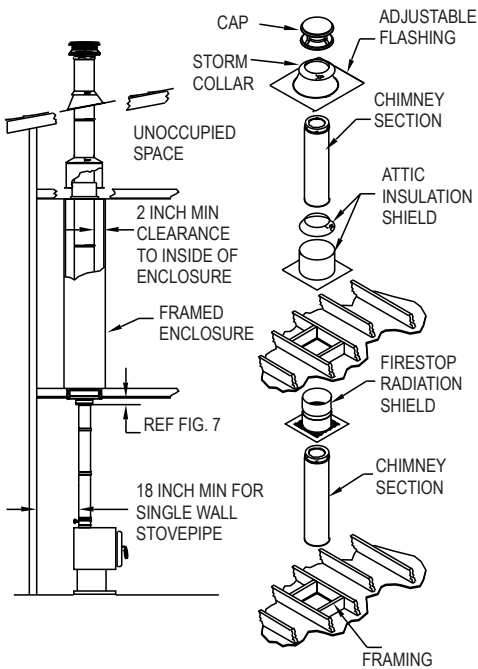
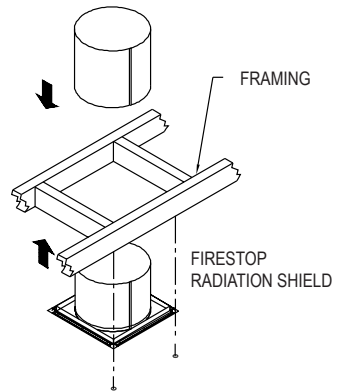

Figure 10
Figure 11
each ceiling or floor above the Support Box (**Fig.10**). These openings are to hold the Firestop Radiation Shield and Attic Insulation Shield. Locate each opening by dropping a plumb bob to the four corners of the opening below. Maintain the framing dimensions as specified in **Table 1**. **Warning: other than the framing for the Reduced Clearance Support Box, any combustible materials around the chimney must meet the minimum 2" clearance requirement.** If Elbows must be used to avoid an obstruction, refer to the Offset Elbow Installation section.
need a Firestop Radiation Shield at the 2nd floor ceiling, and at the 3rd floor ceiling, etc., including where the chimney penetrates into the attic. **Fig.10** shows a typical 2-story installation with an attic. Note: a Firestop Radiation Shield is not installed where the chimney penetrates through the roof. The Firestop Radiation Shield is installed on the underside of the ceiling/floor framing, with the cylindrical “tube” portion of the shield pointing upward. (**Fig.11**). Use a minimum of either (1) 8 penny nail or (1) #8, 1-1/2” wood screws per corner. Refer to **Table 1** for framing requirements.
B4. Slip the Attic Insulation Shield over the Chimney and Firestop Radiation Shield until the base sits squarely on the framed opening (**Fig.10, 13**). If desired, non-combustible insulation may be installed in the Attic Insulation Shield. Before installing, add a 2" thick blanket of insulation around the inside of the Attic Insulation Shield, then slip over the Chimney.